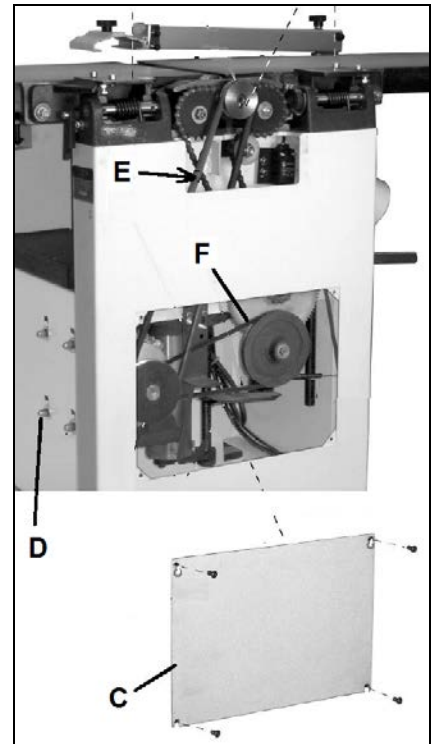

Fig 14
To tighten the belt, remove the lower pulley cover (C, Fig 14), loosen the 4 nuts (D) and lower the motor.